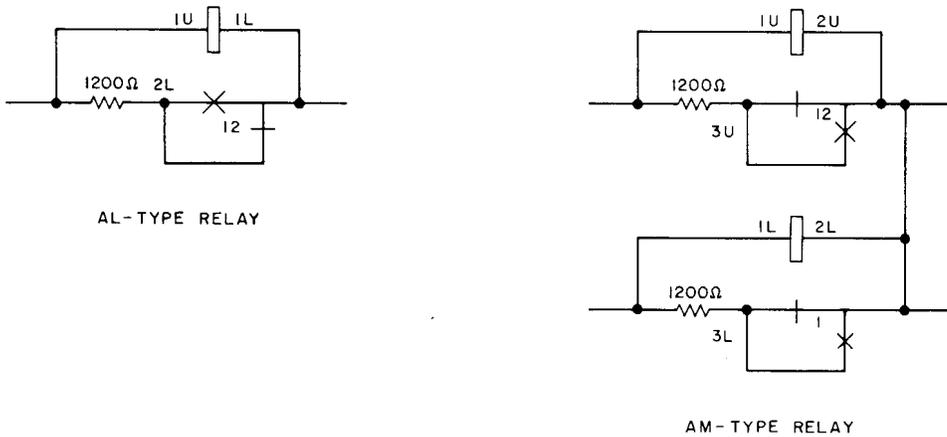

Fig. 3—Winding, Resistor, and Contact Arrangement of AL-Type Relay and AM-Type Relay
2.01 The magnetic latching relay is normally checked in the system in which it is being used. Prior to timing tests of the AL- or AM-type relay, the trunk frame, the junctor frame, or other frame using the relay must be taken out of service. If the relay being tested is on a No. 1 ESS trunk or junctor frame, the portion of the frame on which the relay is mounted can be removed from service by the maintenance teletypewriter (TTY). Section 231-130-301 outlines this method. If the relay is not in a system, it must be wired to return the operate and nonoperate pulses. Fig. 3 illustrates this method.